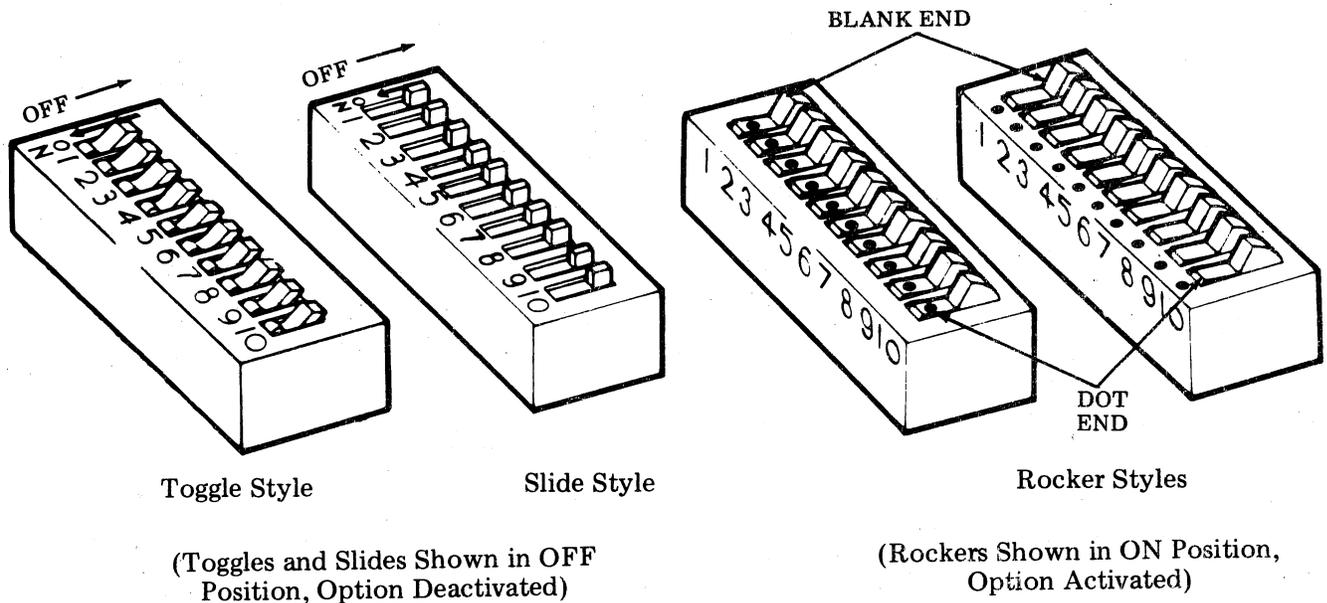

Fig. 29—Option Switches
7.03 Several styles of option selecting switches may be present on the printer and/or controller circuit cards (Fig. 29). The option selecting switches are of various sizes, having between four and ten toggles, slides or rockers, numbered accordingly. On toggle or slide type switches, options are activated by positioning the toggle or slide toward the ON designation. On rocker type switches, the dotted rocker end or the rocker end adjacent to a dot are positioned down (depressed) to activate an option. Conversely, to deactivate or switch OFF an option, position the toggle or slide away from ON or depress the blank end of the rocker switch.